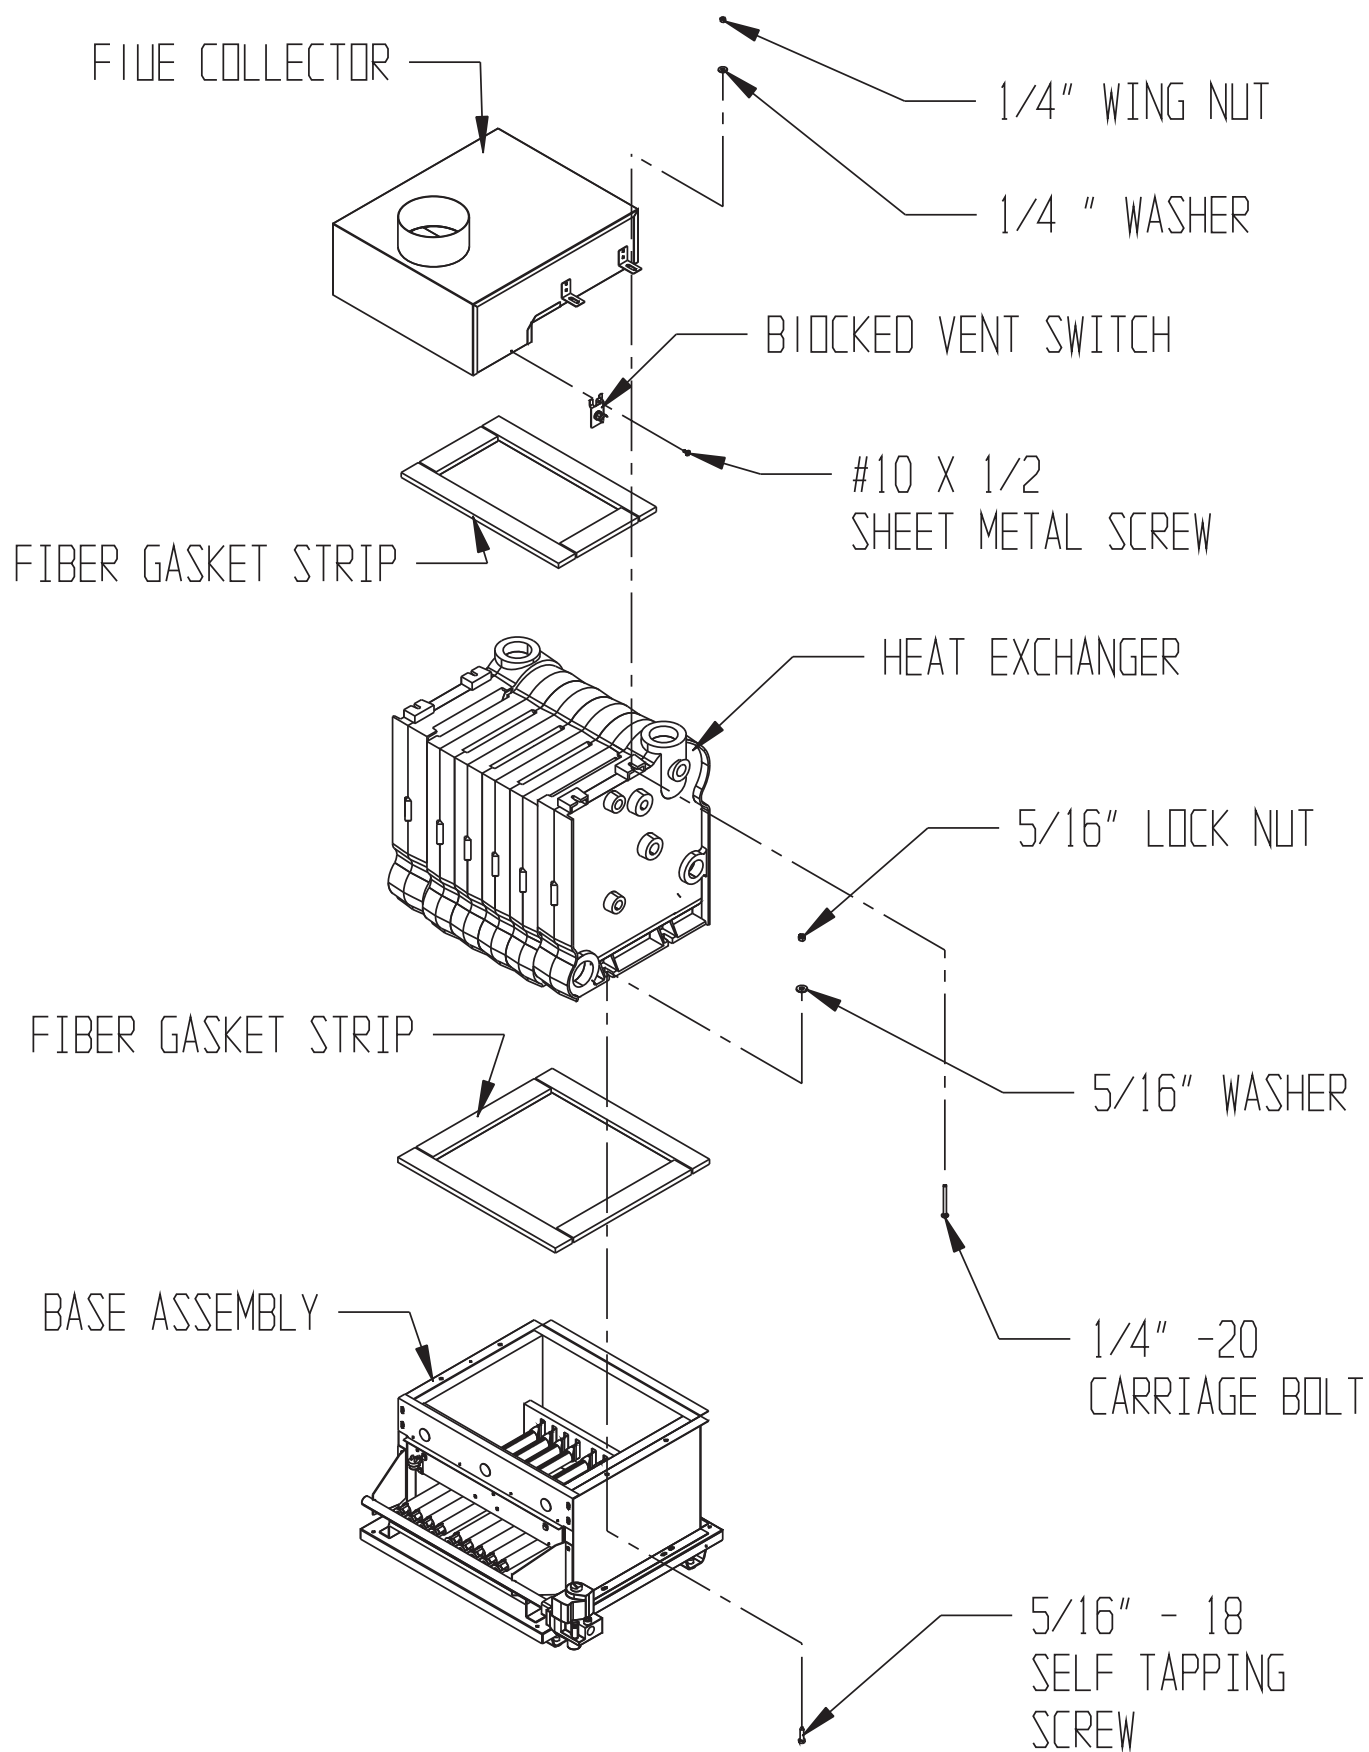

FIGURE A1: BASE, HEAT EXCHANGER, FLUE COLLECTOR ASSEMBLY
- 3) Install the fiber gasket strip, which was shipped in the “Base Box” (Figure A1).
- 1) Position the heat exchanger above the base with the return connection located toward the front of the boiler and the lugs, located on each end of the boiler, centered over the studs, which are on each end of the base (Figure A1). Lower the heat exchanger over the studs, taking care not to disturb the studs which may push out if the heat exchanger comes in contact with them. Also, take care not to disturb the ceramic fiber gasket.
- 5) Fiber gasket strips are used to seal the flue collector to the heat exchanger (this is the same material used between the heat exchanger and base). Install this gasketing on the top of the heat exchanger (Figure A1). A few dabs of silicone may be used to keep this gasketing from shifting when the flue collector is installed.
- 6) Install the flue collector as shown in Figure A1. Secure with the 1/4-20 carriage bolt, nuts, and washers provided.
- 8) Install the blocked vent switch using the #8 sheet metal screw provided as shown in Figure A1